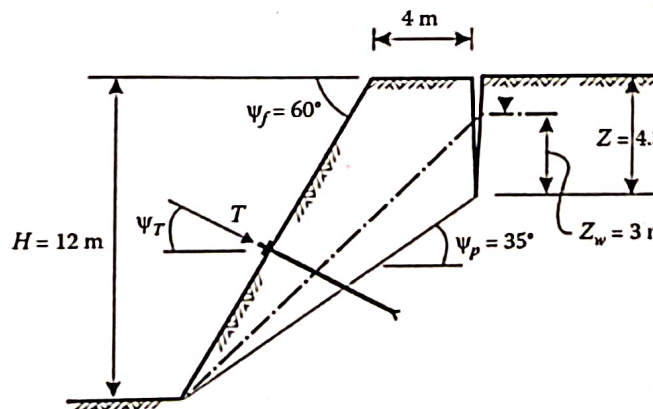

Fig. 3
- i. Calculate the factor of safety of the slope for the conditions given in Fig.3.